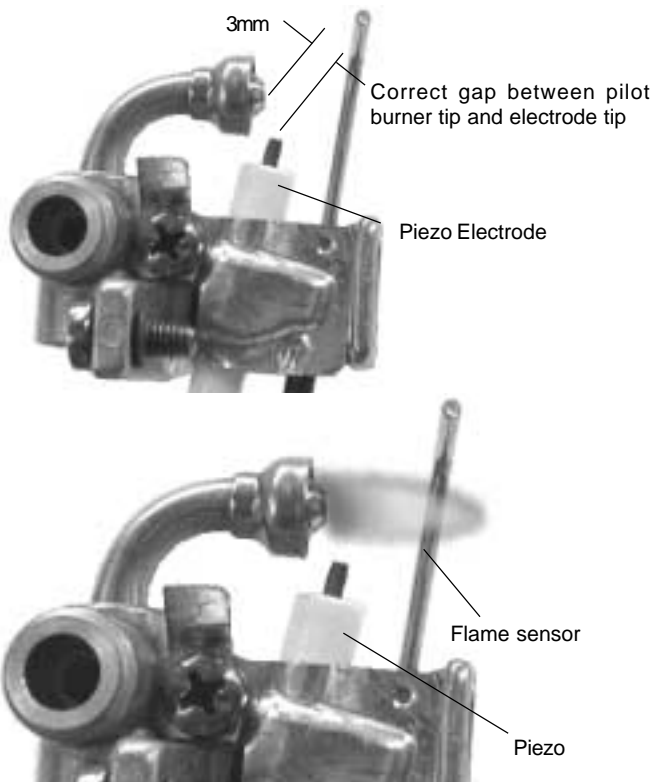

Fig. 10 - Characteristic Pilot Flame
Pilot Flame: The pilot flame should burn with a clean, sharp, blue flame and should resemble the diagram in Fig. 10. If the flame is soft and yellow, the pilot burner orifice may need to be cleaned or replaced. The pilot flame should be approximately 2 inches long, extending past the flame sensor. If the flame is too small, it will not reach the flame sensor and the burners will not come on.
- 2. Confirm the flame sensor is in its proper position and clean, lightly wipe clean if dirty.** See Fig. 10